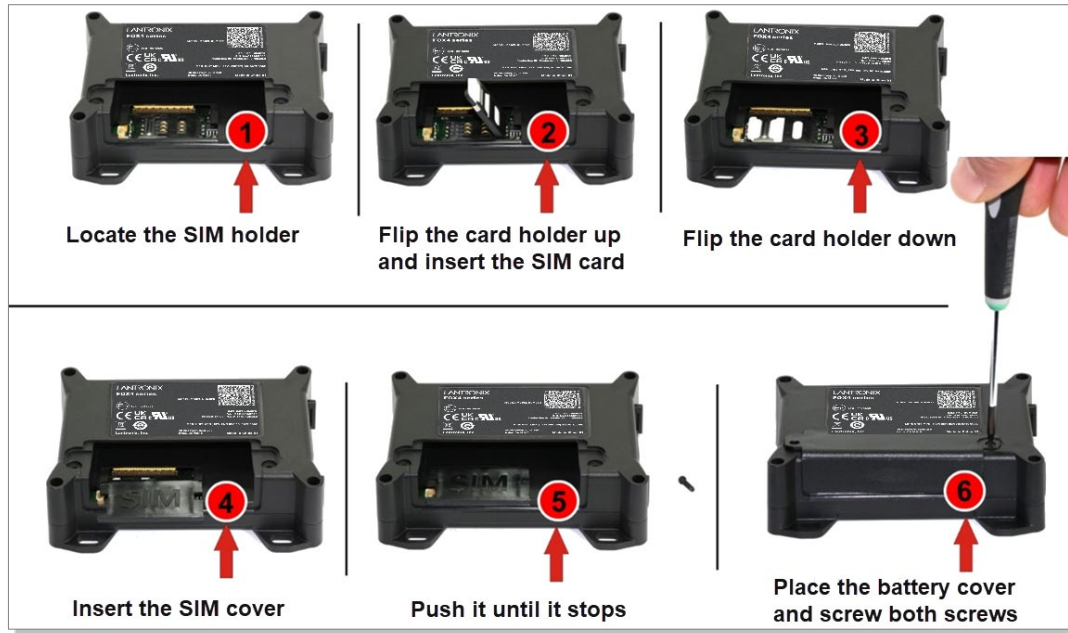

Figure 16: Steps for inserting the SIM card into FOX4-4G device
1. Remove the power supply and any other connections from the device. Turn the FOX4-4G device on its back side as shown in Figure 16 below.
2. Locate the SIM card holder to the left of the battery tray (1). To open it, push the metal slider in direction marked **OPEN**.
3. Flip the card holder up and Insert the SIM card into the card holder (2) in direction as shown in the figure below.
4. Flip the cardholder back (without force) (3), then hold it pressed and move the metal slider in direction marked **LOCK** until it stops.
5. Insert the SIM card cover in the direction as shown in picture below (4) and slide it until it stops (5).